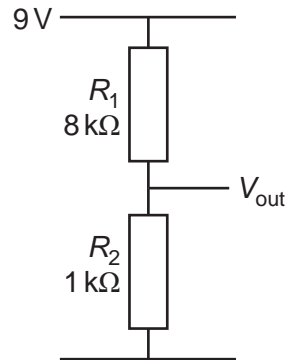

Fig. 5
- 6 (a) Find the output voltage, V_{out} , of the circuit shown in Fig. 5.